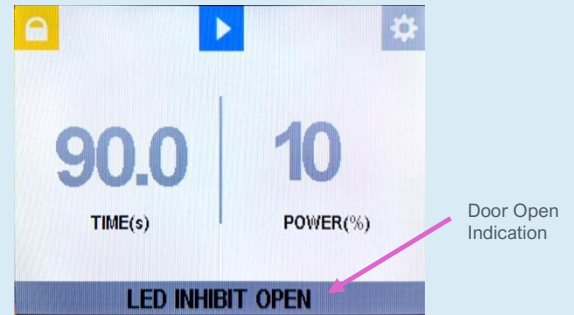

Figure 11.
9. Open the light shield door, and verify "LED INHIBIT OPEN" is displayed across the bottom of the LCD screen (Figure 11). This indicates that the light shield is connected and functioning properly.